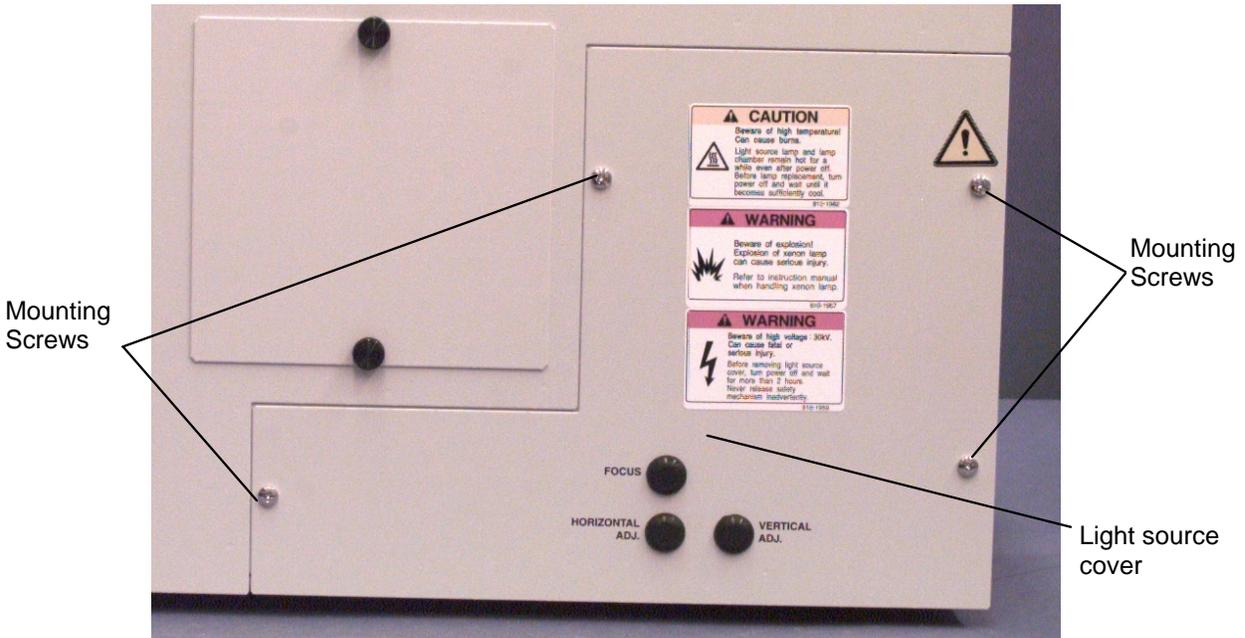

Figure 12 Removal of Light Source Cover
1. Make sure the **Power** switch is turned off before installing the xenon lamp. To remove the light source cover, first loosen the four mounting screws indicated in Figure 12.